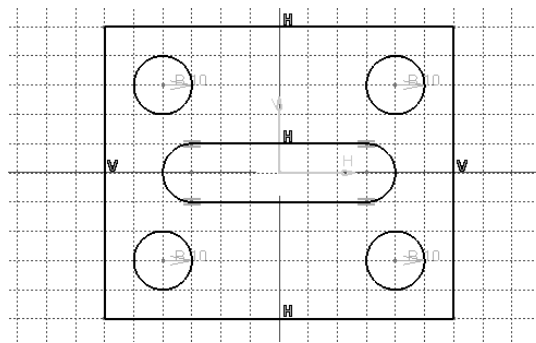

Figure 2-42 The final sketch
15. Similarly, draw the other two circles. The coordinates of the center point of the other two circles are -40, 30 and -40, -30, respectively. The final sketch, with the display of constraints turned on, is shown in Figure 2-42.